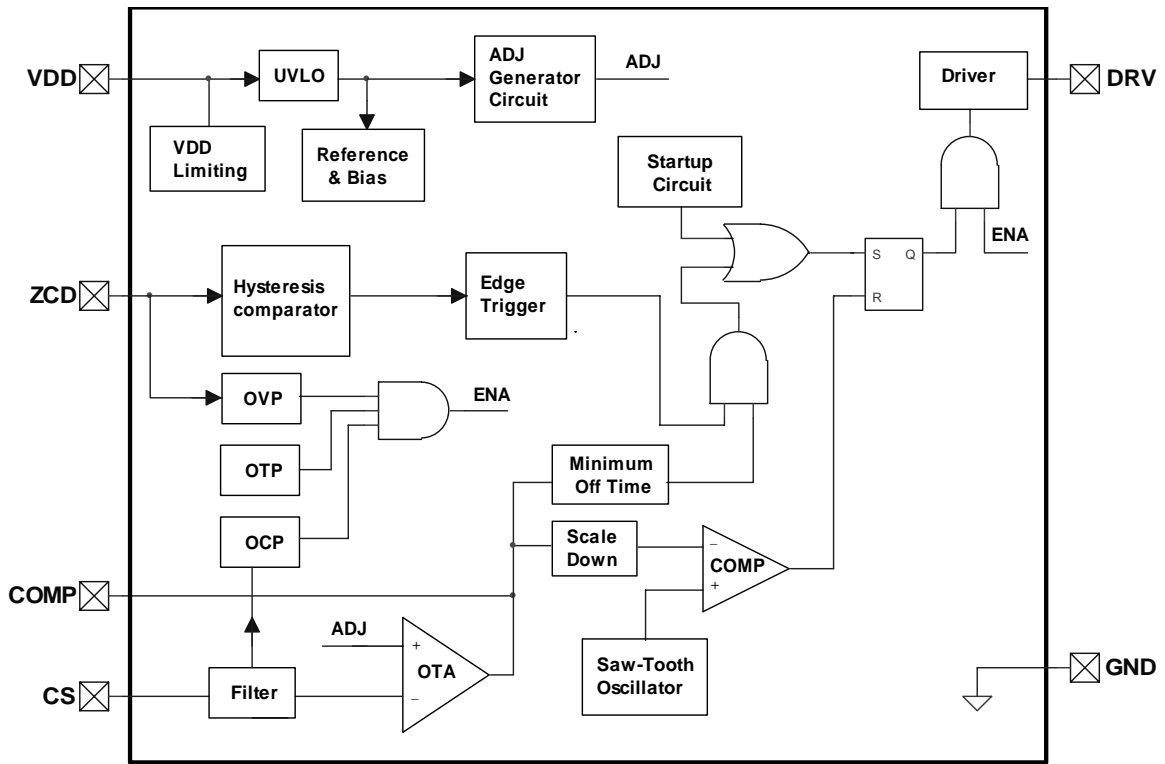
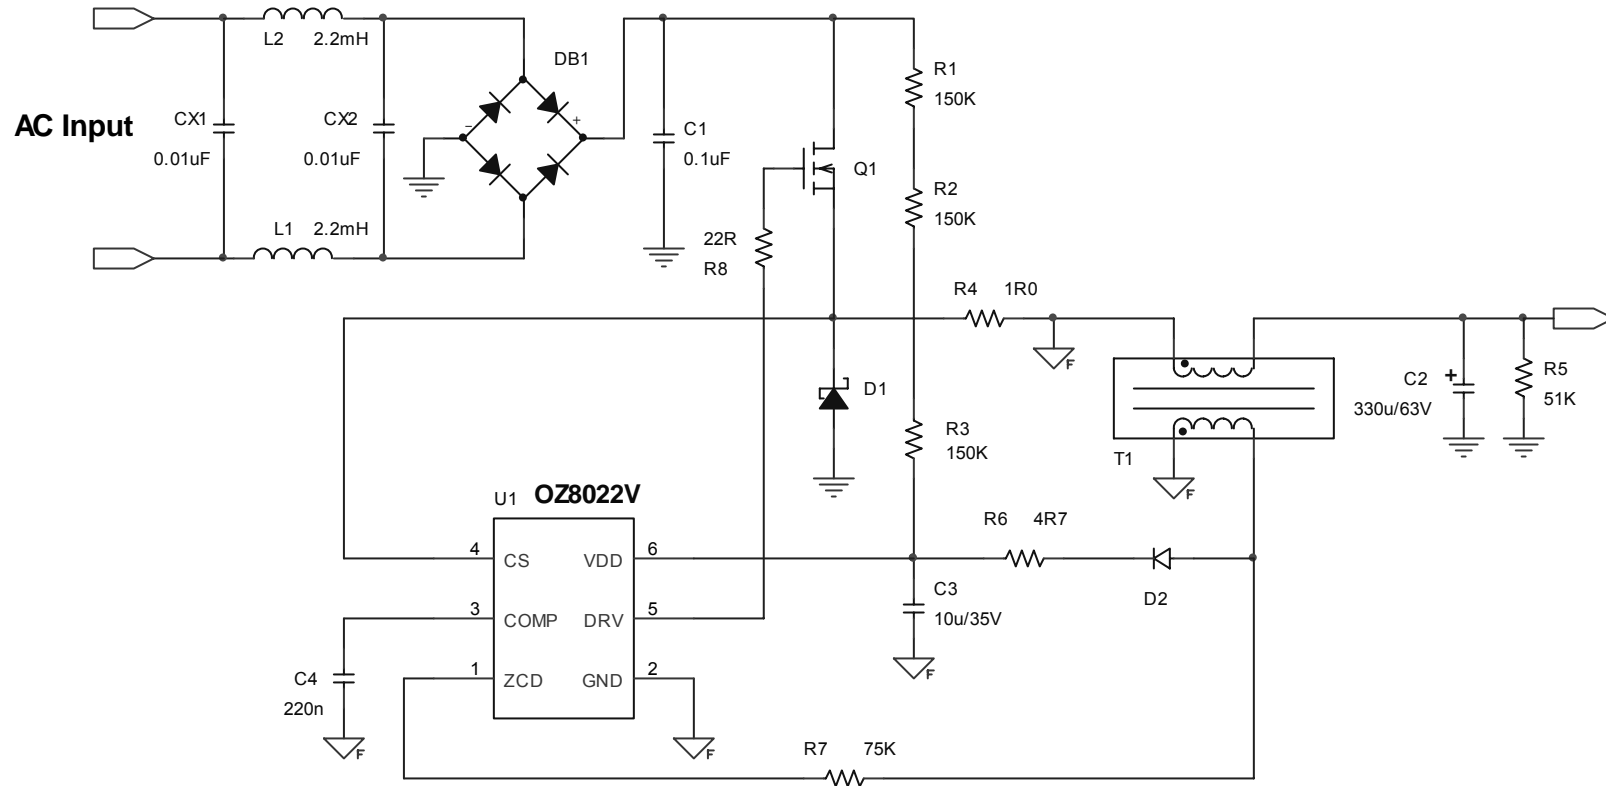

Figure 1: Block Diagram
Figure 4: Typical Application Circuit
- It is recommended that the customer contact their local O2Micro Field Application Engineer (FAE), if the application is significantly different from the Reference Application Circuit illustrated in Figure 4, Page 10.
OZ8022V is a controller for Buck converter applications utilizing quasi-resonant conversion technique. It is optimized for high brightness LED driver applications with Power Factor Correction. It operates near the Discontinuous-Mode and Continuous-Mode operation of the inductor. It provides a high conversion efficiency and lower EMI for the AC/DC converter application. Refer to Figure 1, Page 3, and Figure 4, Page 10 for the following discussions. All parameters mentioned below are typical values.
The application circuit in Figure 4 is recommended to operate at the output voltage range between 10V to 40V and 85Vac-265Vac line input. The LED current is the average of the inductor current. The current at CS pin is a saw-tooth waveform modulated with the line frequency signal, it is not a DC value and the gain of the internal OTA is not uniformed within the line-frequency period. The equivalent ADJ voltage range is between 208mV and 256mV defined in the electrical characteristic.
**Note 1:** If input voltage range is from 85VAC to 265VAC with Figure 4 schematic, recommended LED voltage should be between 10V to 40V.